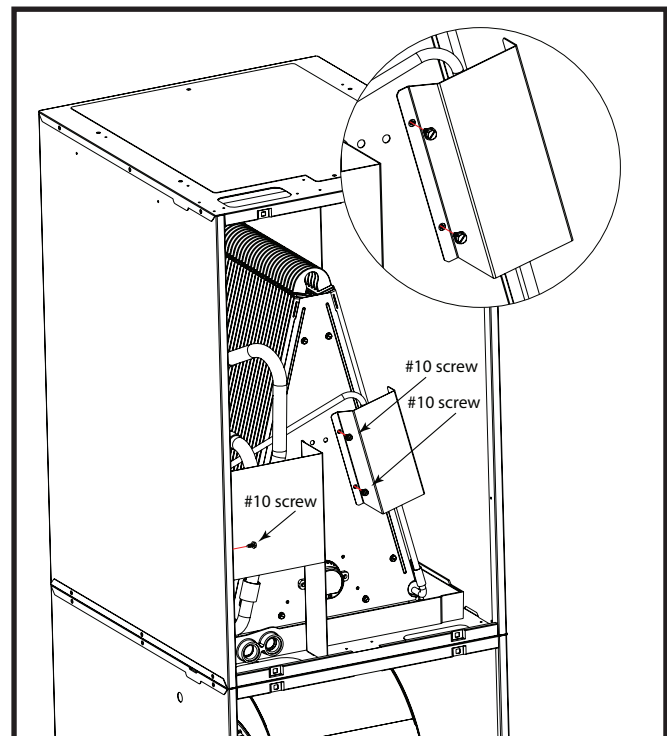

Figure 2. Right Baffle Fastened with Screws
1. Install the right baffle as shown in Figure 2 and secure with 2 of the supplied fasteners.